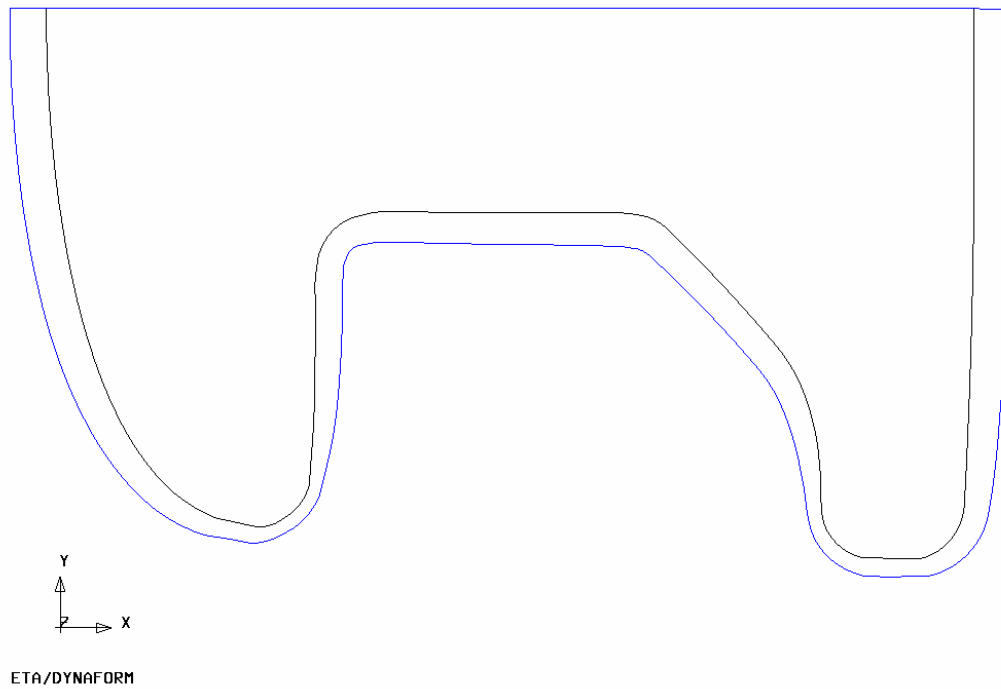

Figure 3.55: Illustration of selected curve
- 3) Pop up the Select Line dialogue window, then pick the draw bead's base curve imported above, the system will show the selected curve, as shown in the following figure 3.55.